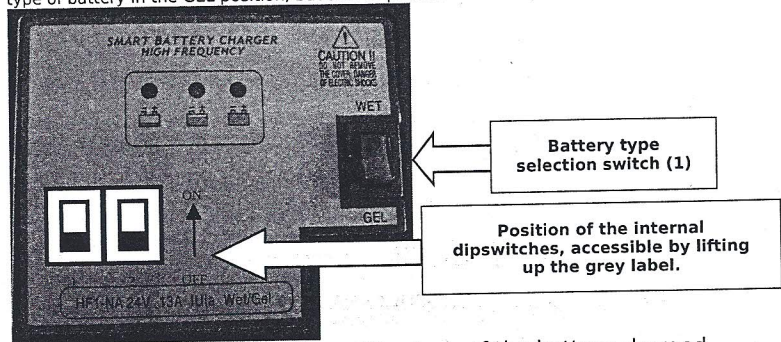

Figure 1: Selection of the type of the battery charged
The HF1-NA battery chargers can charge both lead-acid (WET) batteries and sealed gel and agm (GEL) batteries. A switch (1) placed on the battery charger front panel (see figure 1) allows for the selection of the type of battery to be charged. When the switch is in the WET position, the battery charger will charge lead-acid batteries. When the switch is in the GEL position, the battery charger will charge sealed gel and agm batteries of any make (or Discover AGM batteries only on part # 909.8296.000). The only exception is with the gel batteries by the company Exide-Sonnenschein. To charge these batteries, it is necessary not only to put the external switch for the selection of the type of battery in the GEL position, but also to put the internal dipswitch No.2 in the OFF position.